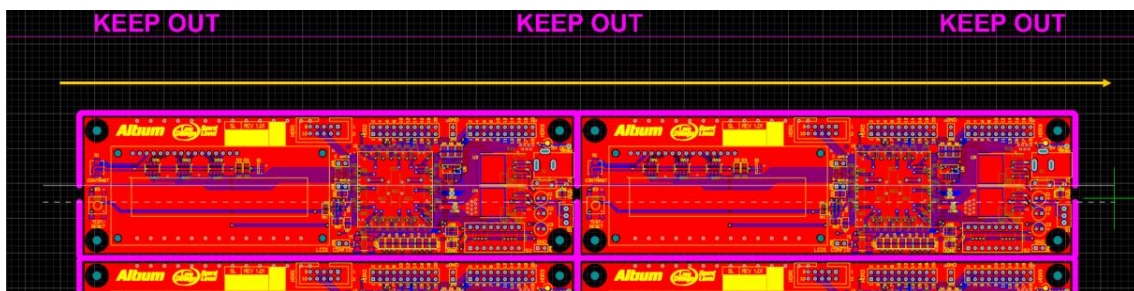

Figure 12. *Horizontal slice across entire panel*
- 32. Drag the slice all the way horizontally, across all the rows of the PCB instances of the panel, similar to what is shown in Figure 12.